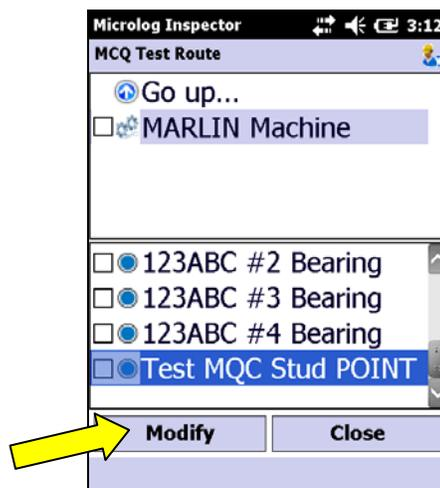

Figure 3. Modify button
5. With the POINT highlighted, press the **Modify** button. [Figure 3] The **Modify Location Tag** screen will be displayed.